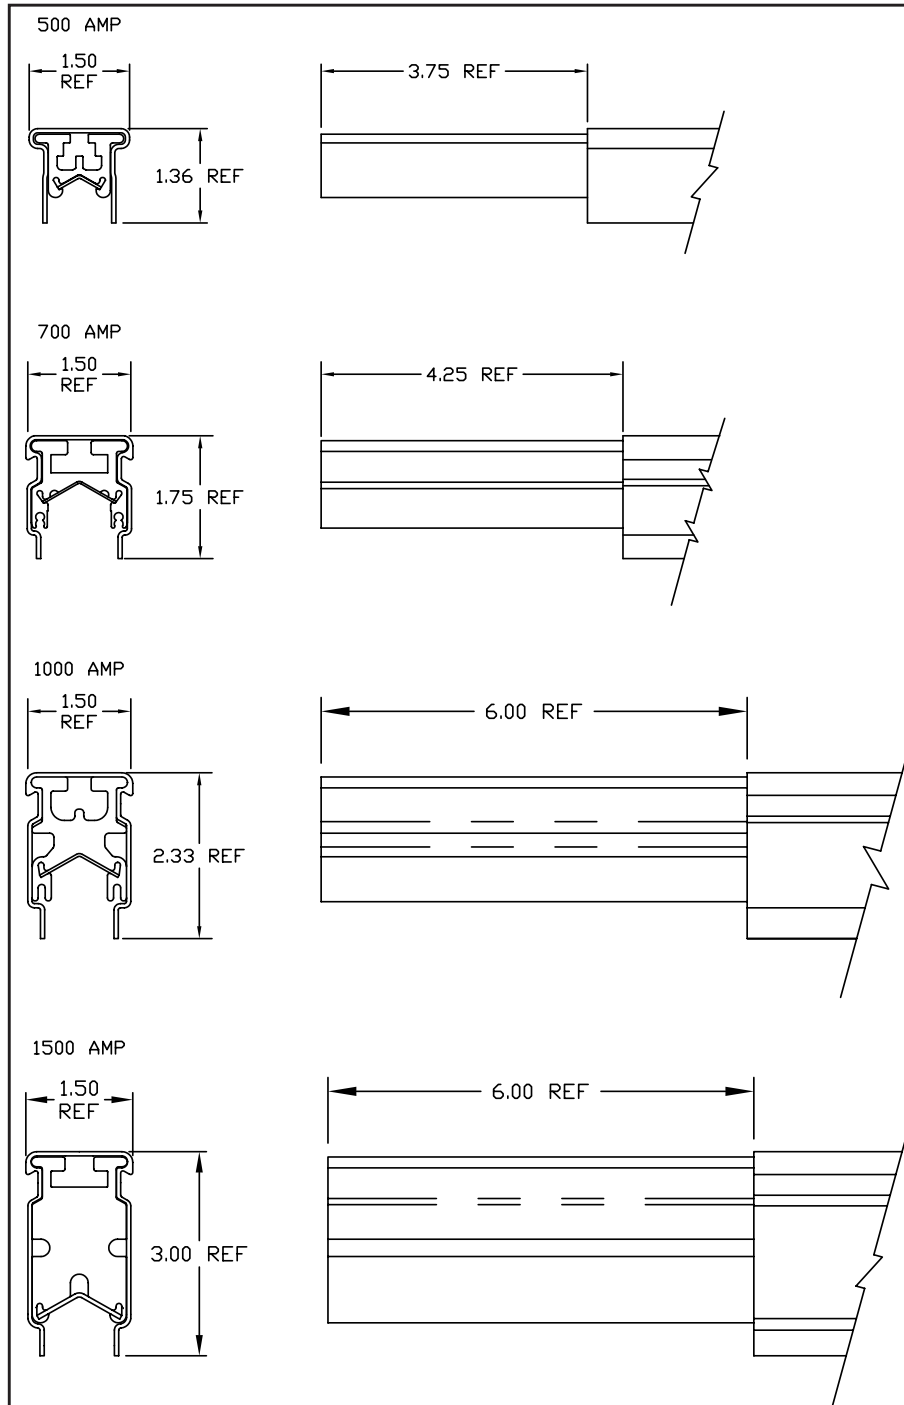

Figure 12-1 Cover Cutback Lengths
- The conductor cover is always shorter than bar length. See **Figure 12-1**.